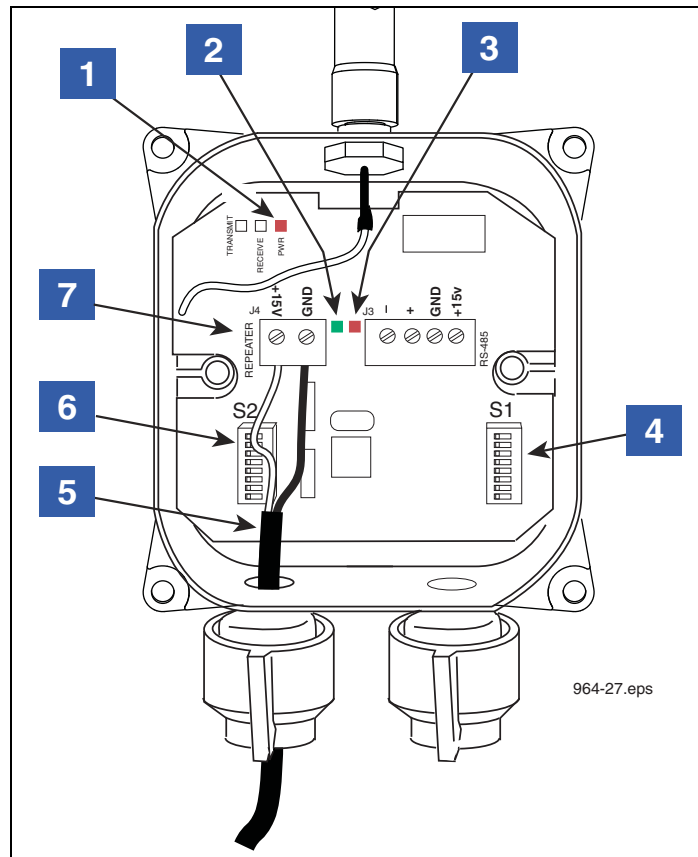

Figure 24. Wiring The Repeater
- 7. A solid bushing must be installed to seal the Receiver when this cord grip is unused. In sites where a Repeater is powered from the Receiver, the Repeater’s power cable enters through this cord grip and attaches to the Repeater terminal block (item 9).
- 9. +15 Vdc power source for the Repeater. If used, connect two wires from item 9 connector in Receiver to item 7 connector in Repeater, see Figure 24.
4. Note the cover of the Repeater indicates the cord grip to be used for the cable connecting the Repeater to its dc power source (item 5 in Figure 24). Remove the cover of the Repeater and set it aside.
6. Connect the 2-wire dc power cable to the Repeater terminal block, white to +15 Vdc and black to GND (see item 7 in Figure 24).
**LEGEND FOR NUMBERED BOXES IN Figure 24**